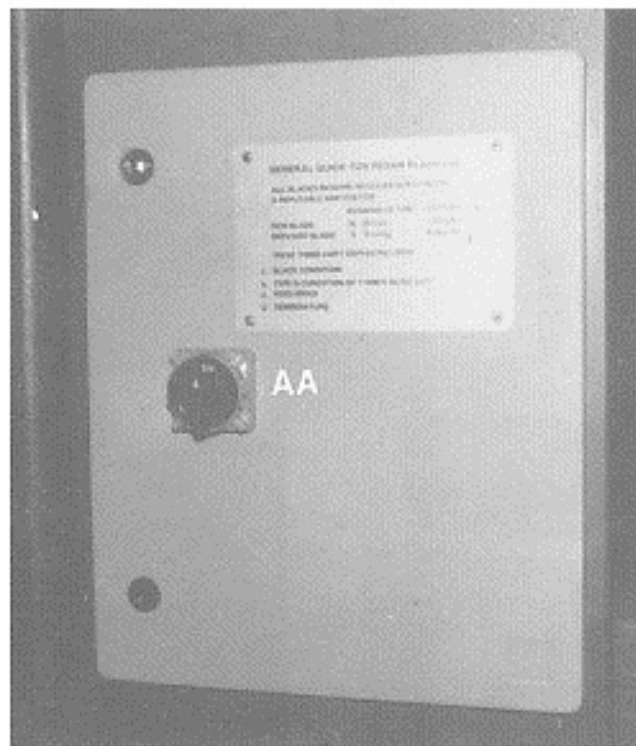

FIG 32
- 1) The isolator ('AA' Fig.32) is shown in the 'OFF' position. The isolator should be switched to the 'OFF' position before making any adjustment to the machine, carrying out any maintenance or whilst changing blades. The machine can not be started with the pump door or main door is open.